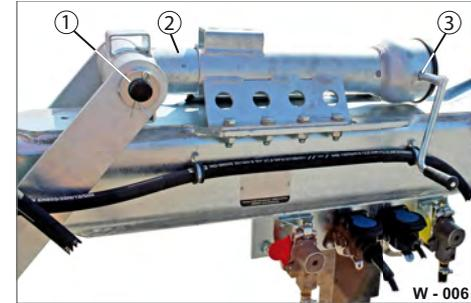

Fig. 6 Remove excess grease
- ▶ If necessary, remove excess grease at different points (Fig. 6/1, 2, 3) - environmental pollution!